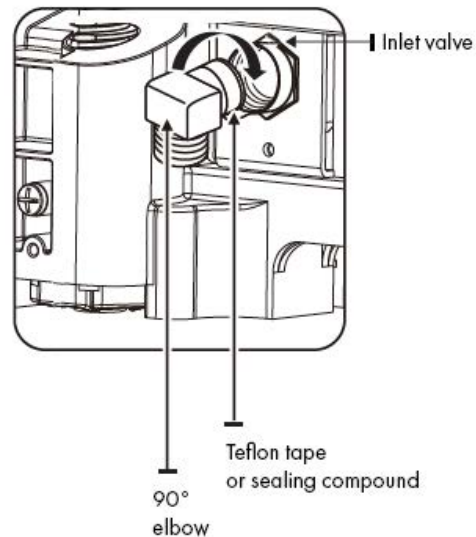

Figure 5
5. Fasten a 90° Elbow joint onto the water inlet valve located at the bottom front left of the dishwasher (see Figure 5); wrap Teflon tape or sealing compound around the thread of the 90° Elbow to ensure a snug seal.